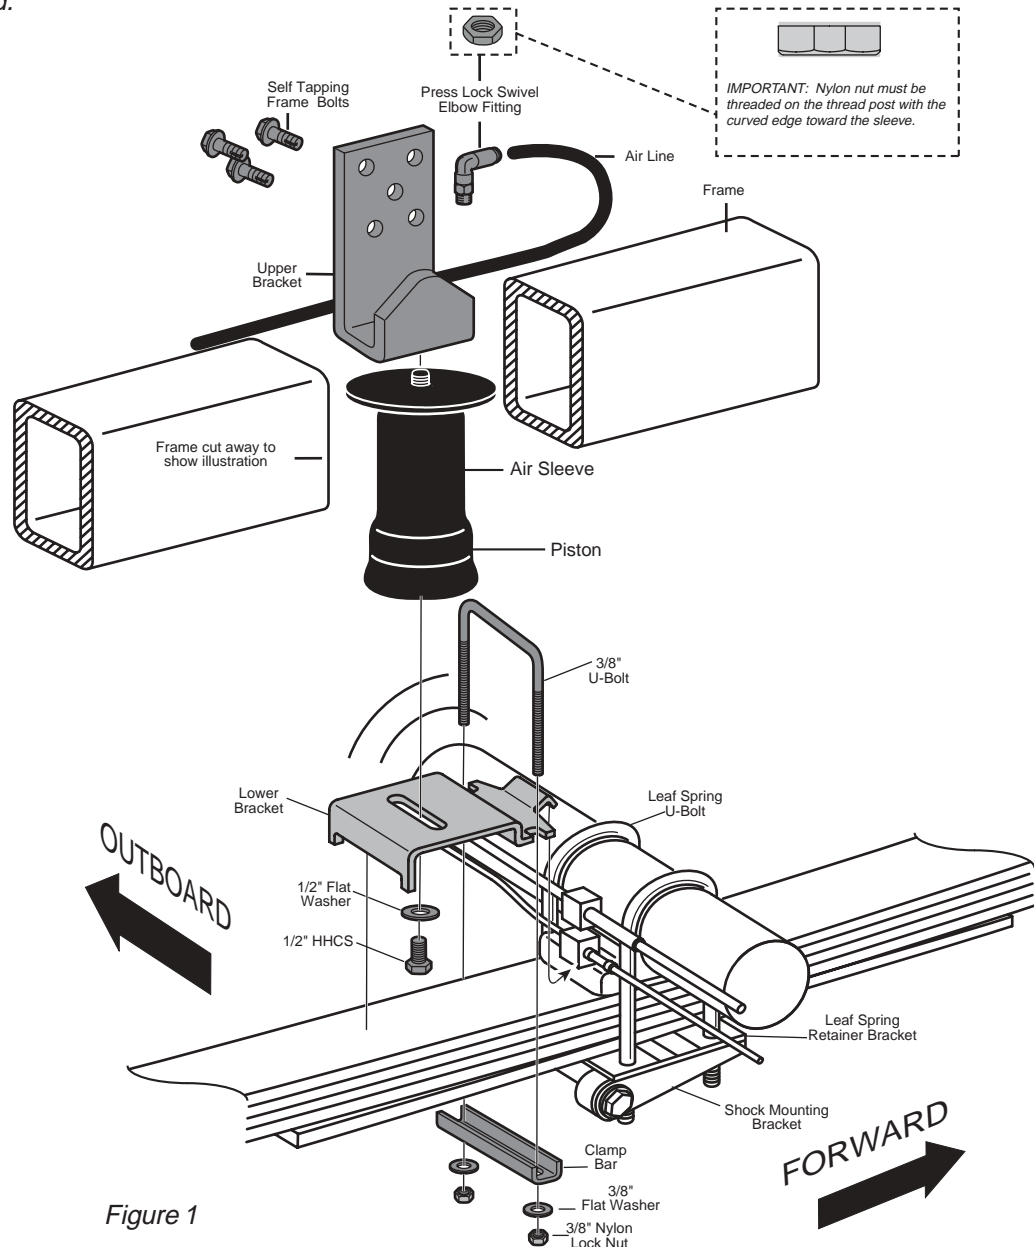
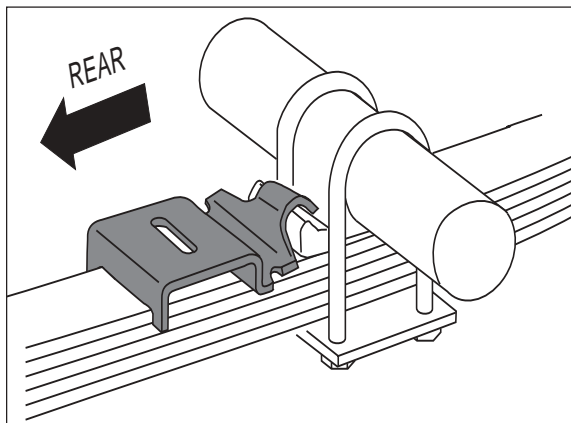
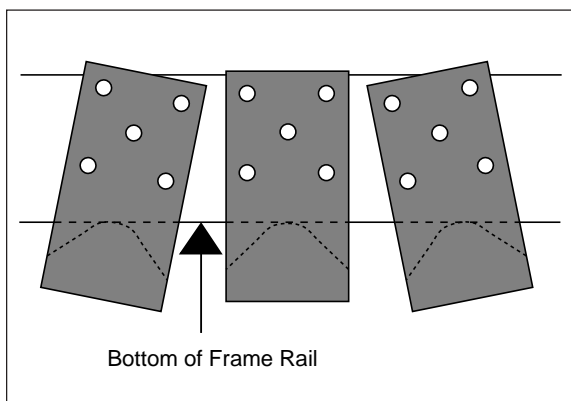
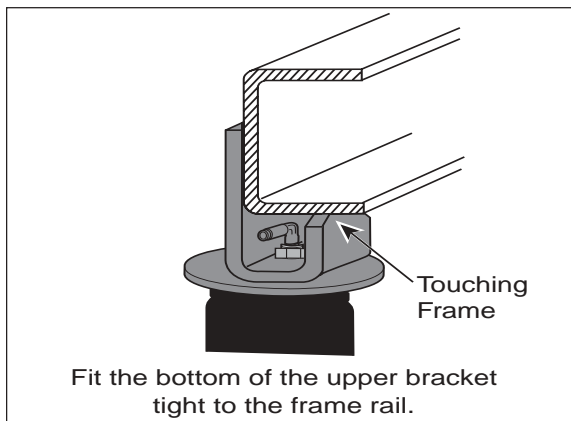

Figure 1
Figure 3
Figure 4
Figure 5
2. Thread the attached air fitting through the bottom of the J-bracket. Position the elbow towards the front or rear of vehicle depending on which direction will allow easier access for the air line (Figures 1 and 2). Slide the provided nylon nut over the air fitting and onto the threaded post. Tighten the nylon nut hand tight to secure the bracket (Figure 1).
3. **LOOSELY** attach the lower brackets to the bottom of the sleeve using the provided $\frac{1}{2}$ " flat washer and the $\frac{1}{2}$ " bolt as shown in Figure 1.
1. Set the assembly on the leaf spring behind the axle. Install the lower bracket as shown in Figures 1 and 3 over the edge of the upper spring retainer plate (Figure 3). Tighten nuts to 16 ft.lbs.
2. The upper bracket must be parallel and perpendicular to the lower bracket. The upper bracket is designed so that it can be "tilted" for the proper angle (Figure 4). The bottom of the upper bracket must fit tight to the bottom of the frame rail (Figure 5). It is necessary to use at least three of the five pre-drilled mounting holes in the upper bracket. Any combination of three is permissible. Using the bracket as a template, center punch and drill three $\frac{5}{16}$ " holes. The holes must be no larger than $\frac{5}{16}$ ". Attach the upper bracket using the Self-Tapping Frame Bolts. Tighten securely to 15 ft.lbs. (Figure 1). **DO NOT OVERTIGHTEN.**
5. If it is ever suspected that the air bags have bottomed out, increase the pressure (fig. 4).
8. It may be necessary to maintain different pressures on each side of the vehicle. Loads such as water, fuel, and appliances will cause the vehicle to be heavier on one side (fig. 5). As much as a 50 PSI difference is not uncommon.